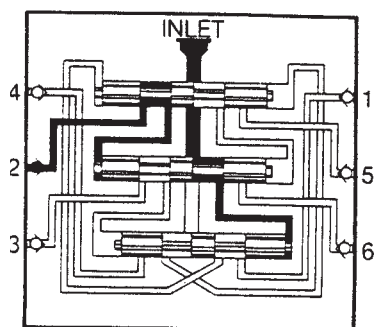

FIGURE 3
**FIGURE 3:** Lubricant flow moves piston 2 from right to left, displacing lubricant through outlet 2. The shifting of piston 2 moves the lubricant flow against right side of piston 3.